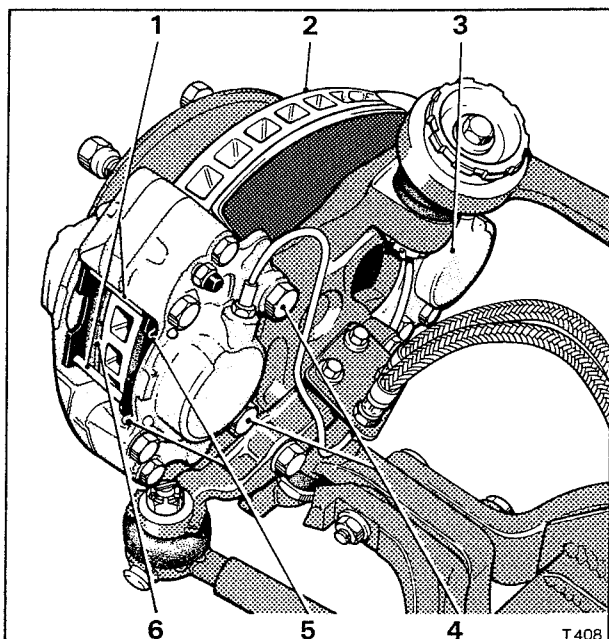

Fig. G35 Front wheel brake calipers
5. Remove the spring clips from the two brake pad retaining pins (see Fig. G35) and withdraw the pins.
Front brake caliper - To remove (refer to Fig. G35)